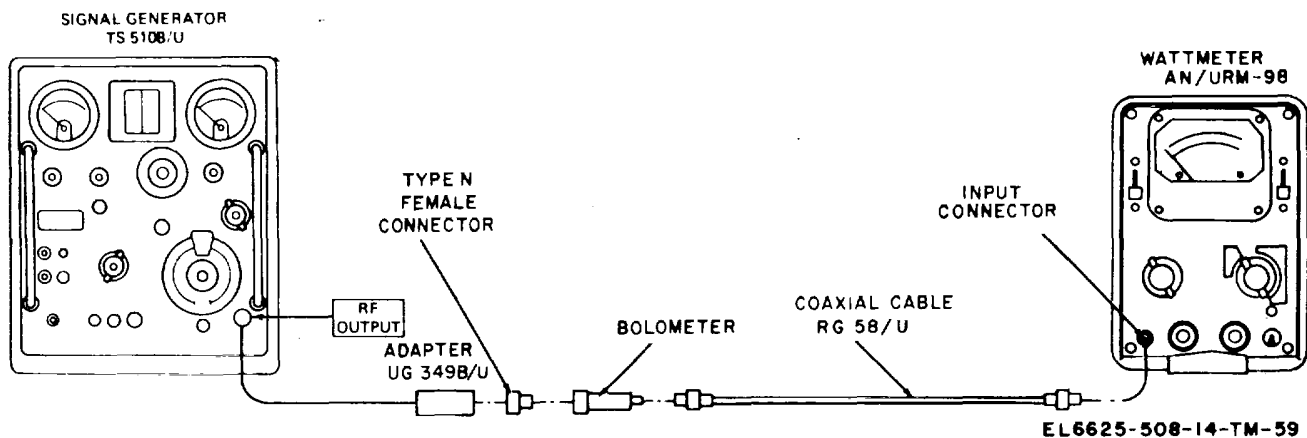

Figure 6-30. Attenuator accuracy test connections.
- (1) Wattmeter AN/URM-98 with bloomer
- (2) Adapter UG-349B/U
(3) Coaxial Cable RG-58/U
(4) Coaxial Cable CG-92D/U
b. Test Connections and Conditions. Connect the equipment as shown in figure 6-30. Observe cautions specified in subparagraph b of paragraph 6-18.